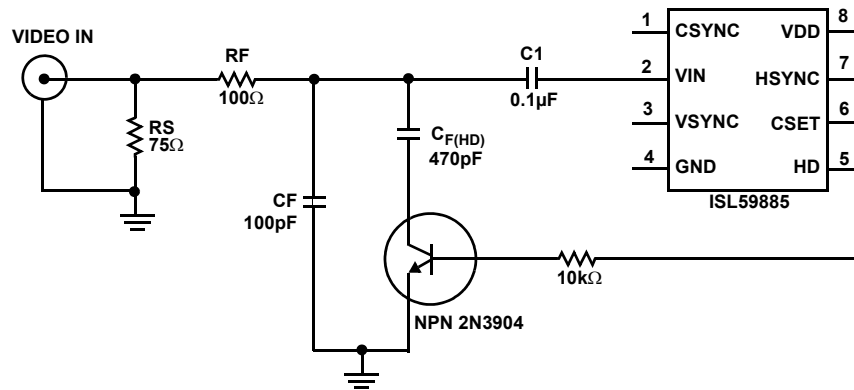
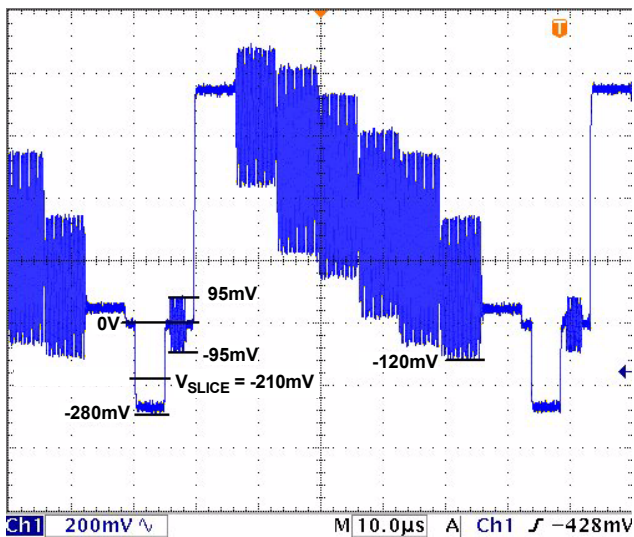
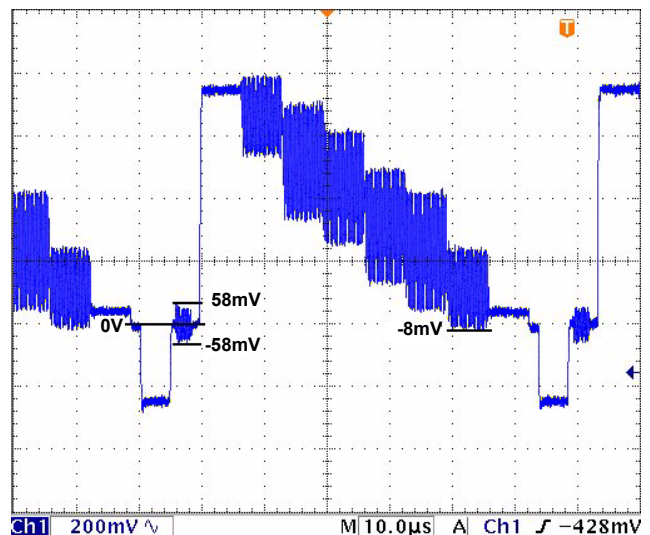

FIGURE 3. FILTER CIRCUIT ALLOWING RELIABLE SYNC DETECTION OF HD AND NTSC VIDEO
FIGURE 4. VOLTAGE LEVELS OF NTSC VIDEO
FIGURE 5. ATTENUATED INPUT OF NTSC SIGNAL
The ISL59885 is a sync separator which features both HD and NTSC detection. An output, labeled HD, is provided which responds to the type of input - high for NTSC and low for HD. This external pin can be used to insert a low-pass filter into the sync separator path preventing false sync pulses in composite video. The circuit is shown in Figure 3. When composite signal (NTSC/PAL) is detected, the filter is enabled by applying a logic high to the base of the transistor. When component signal (HD) is detected, the filter is disabled by having the HD pin at a logic low state. Although the transistor is disabled during HD, a low pass filter is still present to filter out any noise present at the input.
The cut-off frequency for the filter is $1/2\pi(R_F)(C_{FT}) = 2.79\text{MHz}$, where C_{FT} is the total capacitance of C_F in parallel with $C_{F(HD)}$, shown in Figure 3. Computing C_{FT} with $R_F = 100\Omega$ and $C_{FT} = 570\text{pF}$, the 3.58MHz color burst, for example, is attenuated to 60% of its original 190mV size (Figure 4) while passing 15kHz sync signals without appreciable attenuation. This is enough headroom to prevent false trigger since the slice level is 70mV and the new color burst amplitude is 116mV (Figure 5). Note that the lowest color subcarrier level in this example was also attenuated from -120mV to -8mV. If we use a smaller C_F , the color burst will attenuate less. Ideally we want to maximize C_F to attenuate more of the signal, but the cost of a